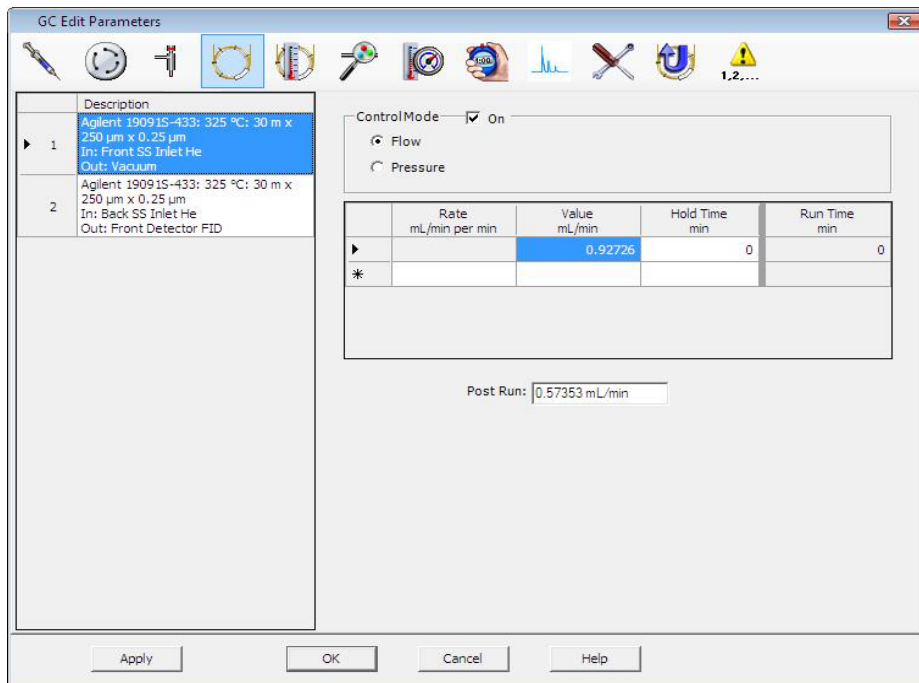

Figure 17 Calculating column flow
- 2 Click the **Columns** icon (Figure 17 shows an example).